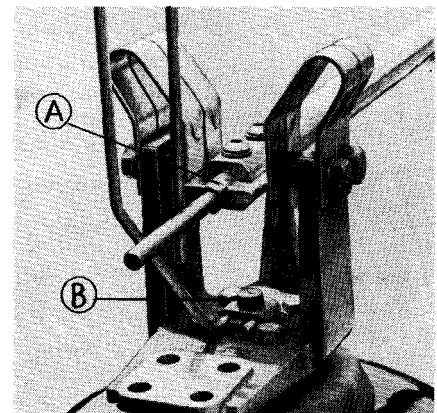

Fig. 7
Arcing Horns—When arcing horns are used on switches they should be installed and adjusted after mounting the switches on the structure. Arcing horns are furnished only when horn gap switches are ordered. The movable straight horn is assembled by screwing into the blade end, until locking nut seats securely against end of blade, (A) Fig. 7. The stationary horn is positioned on the jaw with the saddle clamp, tightening center bolt (B) securely. Light contact pressure over the entire travel of the arcing horn contacts is desired.